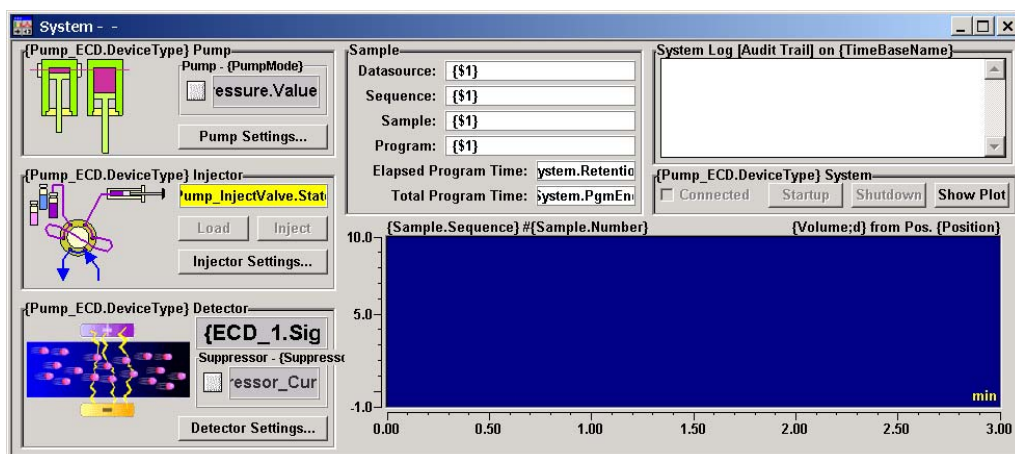

Figure 3-5. ICS-1000 System Control Panel (Unconnected)
- The Control panel opens, unconnected (see Figure 3-5). To connect to the timebase, open the **Control** menu and click the name of the ICS-1000 timebase in the list at the bottom of the menu.